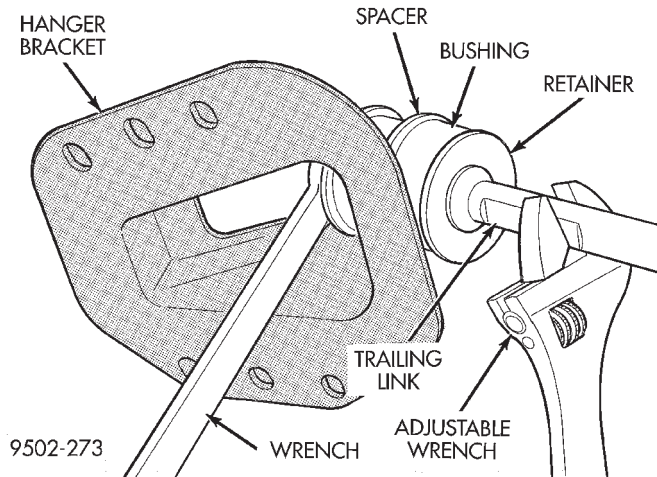

Fig. 37 Separating Trailing Link From Hanger Bracket
(6) Separate the trailing link from the hanger bracket. To separate trailing link from hanger bracket, use a large adjustable wrench on flat of trailing link to turn link while holding nut stationary (Fig. 37).